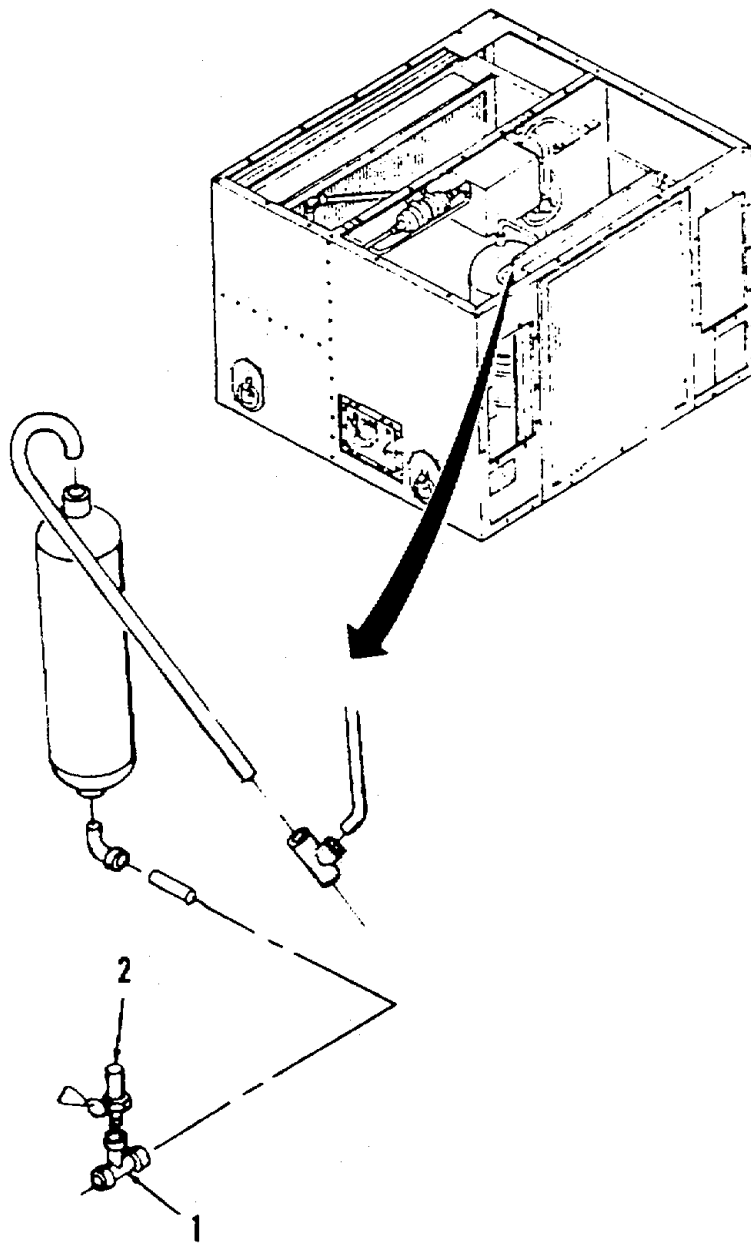

Figure 4-16. Pressure Relief Valve.
**a. Removal.** (Refer to Figure 4-16).